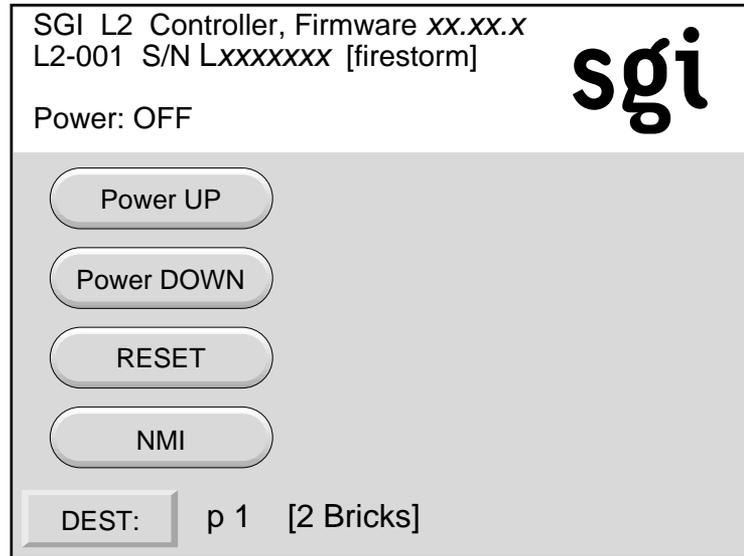

Figure 1-22 Home Window with Partition Destination
- The **New DEST:** field shows *p 1*, which indicates partition **001** was selected as the new destination. If you select **Apply**, your selection is confirmed and the home window, shown in Figure 1-22, appears. The **DEST:** field shows *p 1 [2 Bricks]*, which indicates that the two bricks in partition 1 are the new destination.